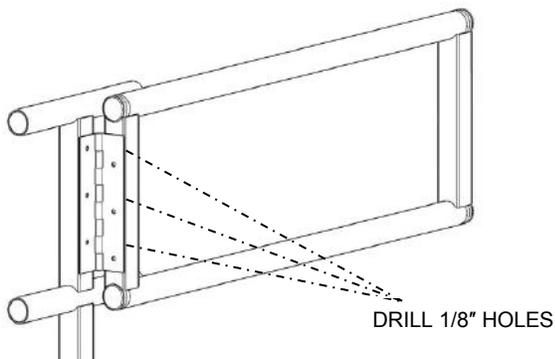
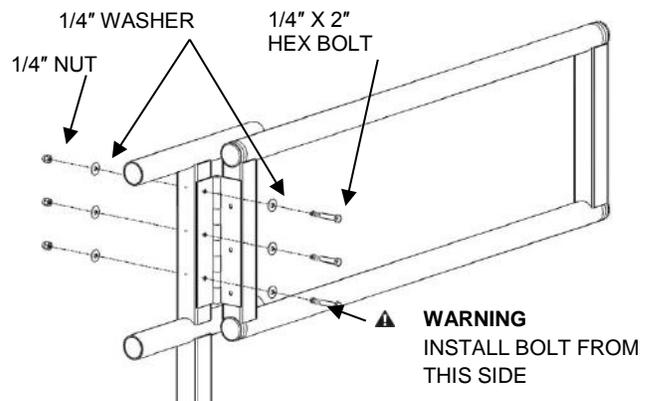

FIG. 7.15
FIG 7.16
- 7.8.3. Position the gate hinge against the vertical handrail post. Position the hinge vertically so the top of the gate is even with the top of the handrail and so that the edge of the hinge is flush with the edge of the vertical handrail post. Mark holes with pencil using the holes in the hinge as a template then drill three 5/16" holes through both sides of the vertical handrail tube (FIG. 7.15). Install fasteners through hinge and vertical handrail tube and secure as shown (FIG. 7.16).